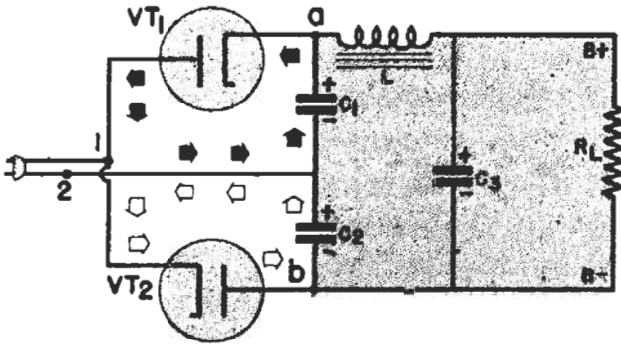
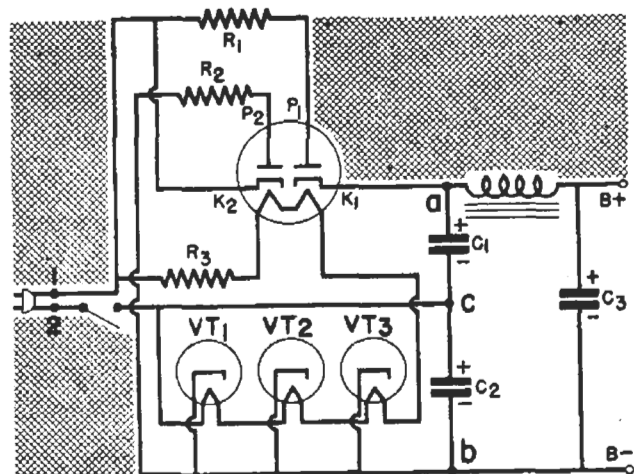

FIG. 10. This circuit doubles the line voltage without using a transformer.
FIG. 12. A practical full-wave voltage doubler.
voltages add together, we will get twice the charging voltage from the series combination. This is the theory of the full-wave voltage doubler circuit shown in Fig. 10.
**A Practical Circuit.** Of course, Fig. 10 is a simplified circuit. A typical practical circuit, using a dual-
diode tube, is shown in Fig. 12. In its important details it is the same as the circuit shown in Fig. 10.
Let's trace the electron path through Fig. 12. When point 2 (near the power plug) is negative with respect to point 1, the path is from point 2 to point c, through  $C_1$  to cathode  $K_1$ , and from  $P_1$  through resistor  $R_1$ , to point 1. ( $R_1$  and  $R_2$  are protective resistors in series with the tube's plates.) On the next half cycle, the path is from point 1 to cathode  $K_2$ , to  $P_2$ , through  $R_2$  to point b, through condenser  $C_2$  to point c, and thus back to point 2. Therefore, the circuit works exactly like Fig. 10.